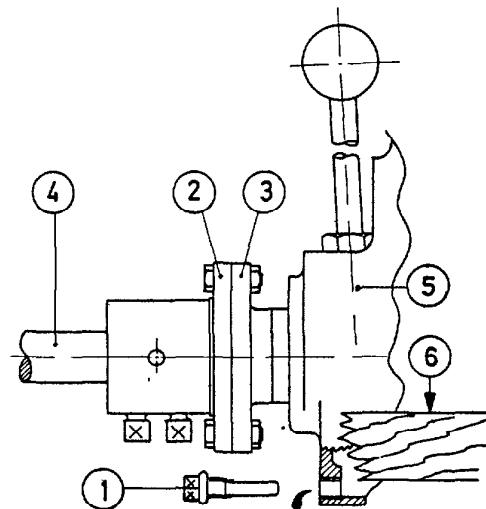

FIG. 1.
DRAWINGS FIG. 1 - 14.
A) Fig. 1 to 4 : Dismantling Rear Oil Seal (Pos. 17).
B) Fig. 1 to 8 : Dismantling Gear Coupling Sleeve (Pos. 31)